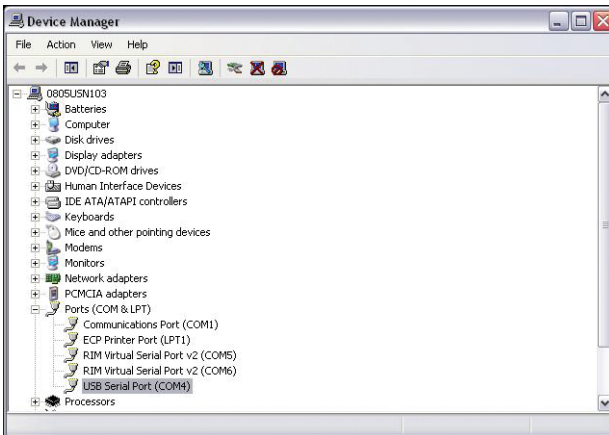

Figure 29. Device Manager Ports (COM & LPT)
- Expand the 'Ports (COM & LPT)' to find out which com port is being used by the modem USB, as seen in Figure 29.